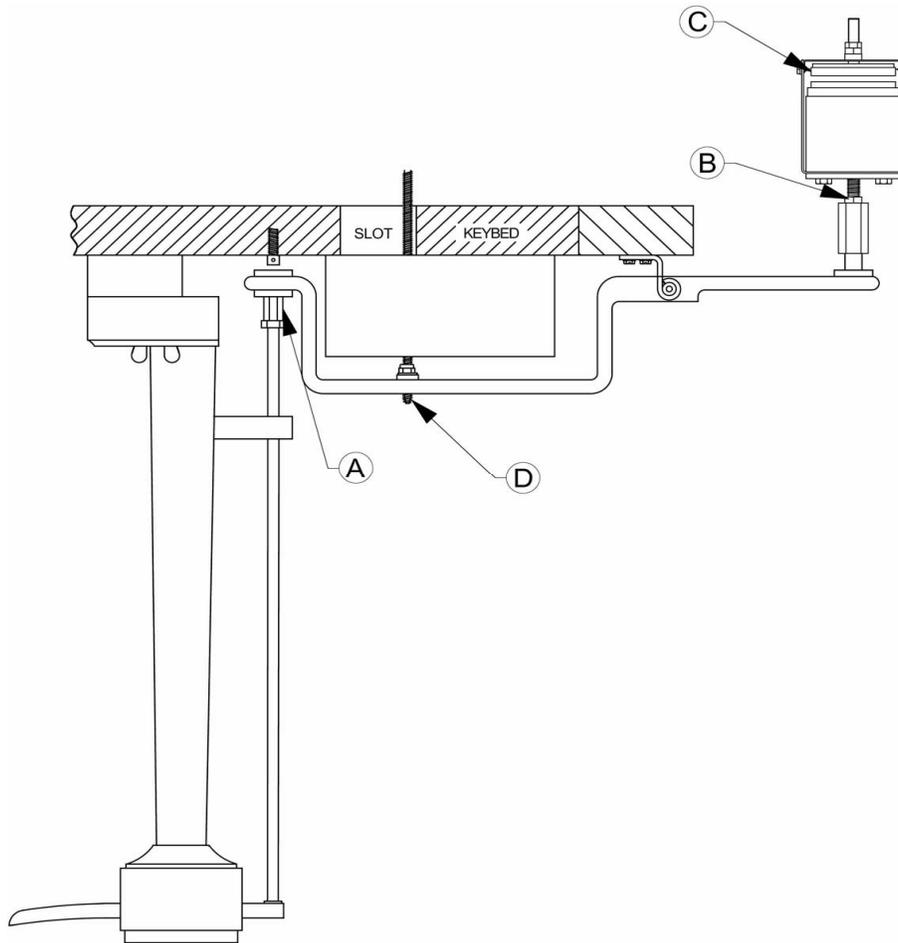

Figure 50
A. Adjustment begins with the pedal solenoid operation. (See Fig. 50, previous page)
1. Loosen (C) pedal solenoid stop pad and adjust it upward by turning it clockwise. (looking up from the bottom)
2. Loosen (B) pedal solenoid lock nut and adjust it upward by turning it clockwise. (looking up from the bottom)
3. Adjust (A) manual sustain pedal rod for minimal free play between damper tray and bottom of damper lever. Adjustments may also be done at the pitman arm (D) or sustain threaded rod.